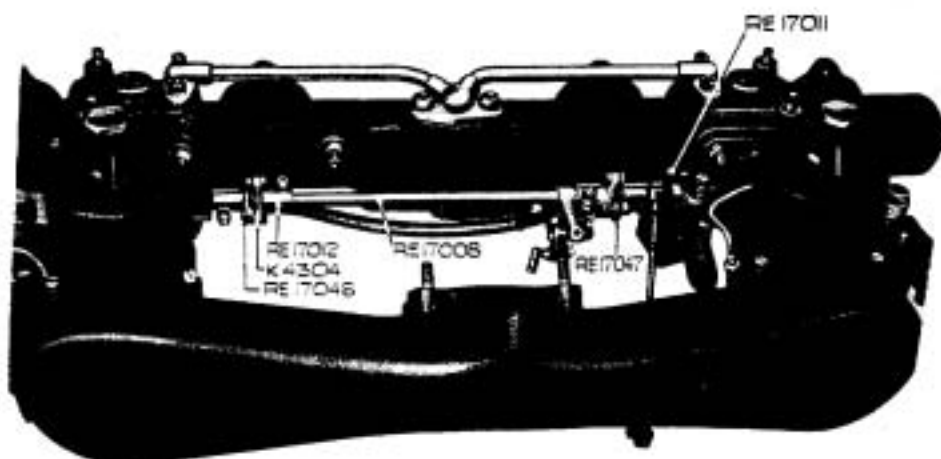

FIG. 1. CARBURETTORS ASSEMBLED.
2. Assemble couplings RE.17012/17047 as complete separate units and then fit these to carburettors as shown in Fig. 1. (Illustration, is position with fully closed throttles).